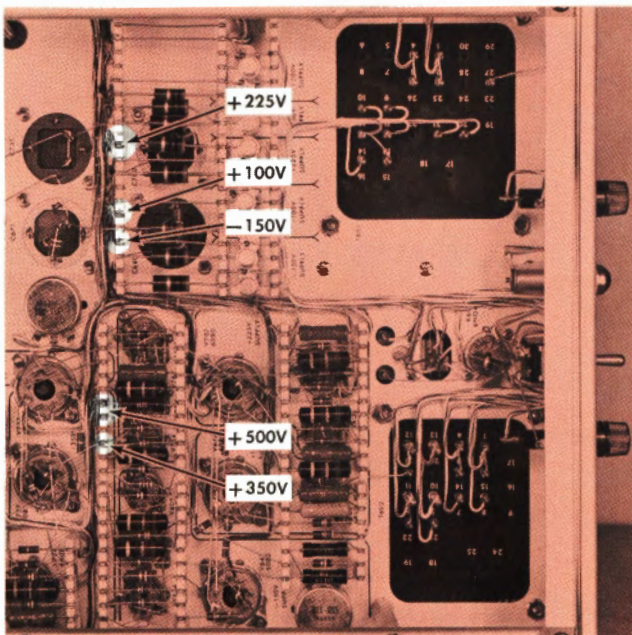
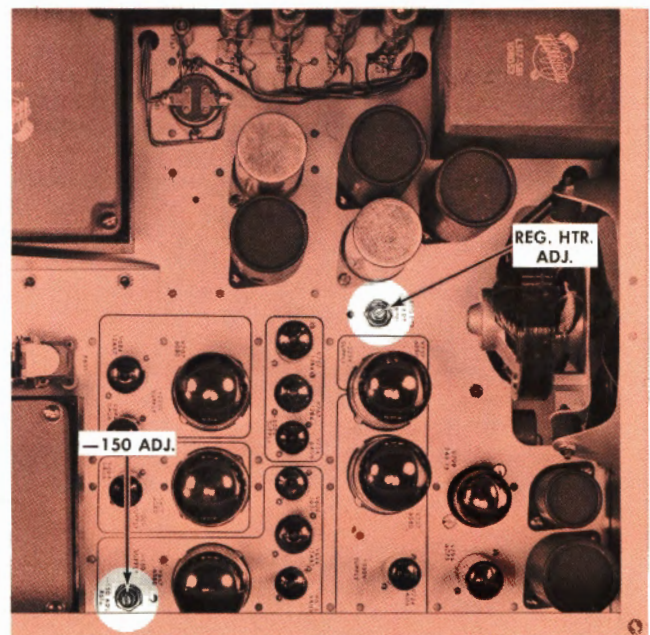

Fig. 7-1. Bottom view of the power supply showing the location of the test points.
Fig. 7-2. Top view of the power supply unit showing the location of the power supply unit adjustments.
Measure the output voltage of the -150v, +100v, +225v, +350v and +500v supplies at the points indicated on the Power Supply Unit (see Figure 7-1). Be sure your meter is accurate (see Equipment Required, (1)). The output voltage of the -150v supply must be between -147v and -153v, and the other regulated supplies must be within 2% of their rated values. You should be able to set the -150 ADJ. control (see Power Supply Unit, Figure 7-2) so that all of these voltages are within the specified tolerance. Bear in mind that the calibration of the entire instrument is effected